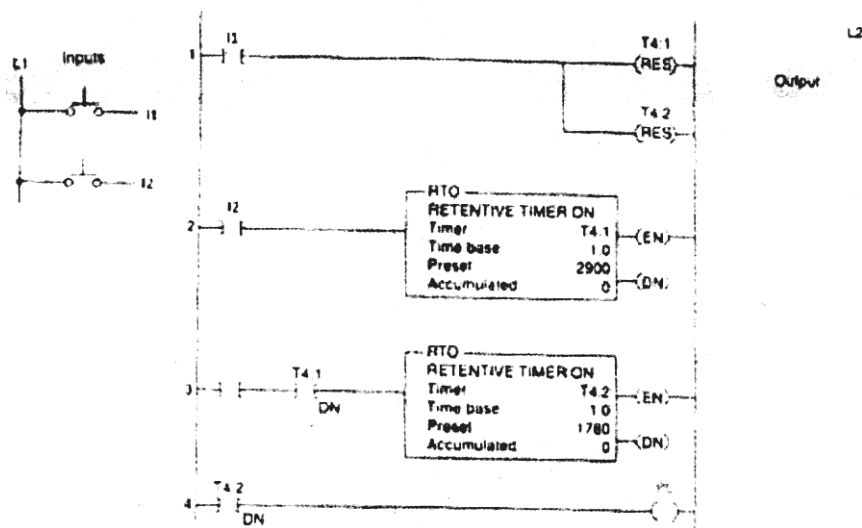

Figure Q7-B
- b)** Study the ladder logic program in Figure Q7-B, and answer the questions that follow: [6]